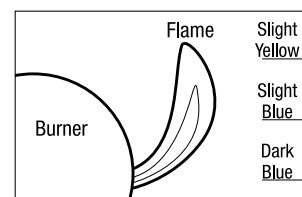

FIG. 4
5. After lighting, observe the burner flame. Make sure all burner ports are lit and flame height matches illustration (Fig. 4).